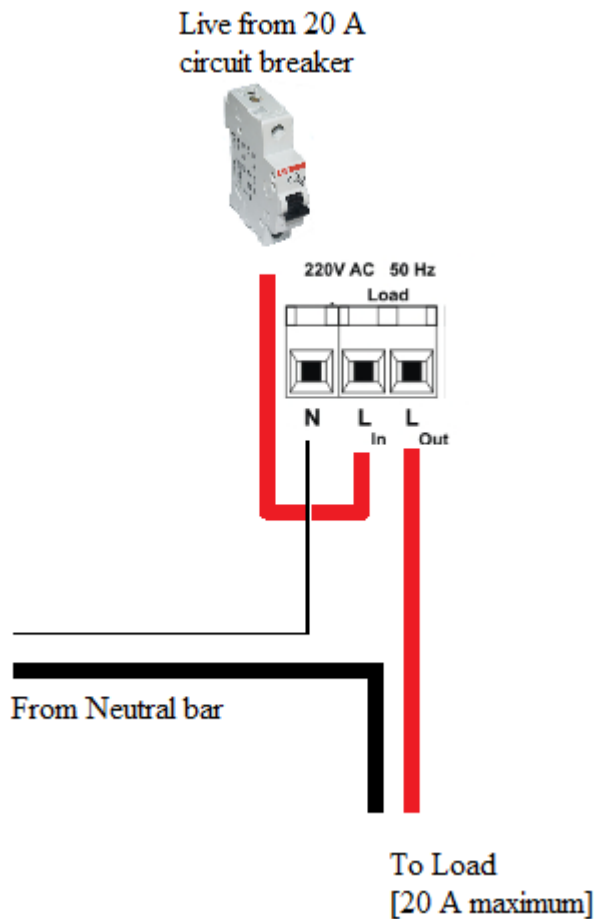

Figure 1
- a. Mains live wire (RED) from Geyser Isolator to screw terminal (Figure 1 - Lin);
- b. Neutral wire (Black) from Geyser Isolator to screw terminal (Figure 1 - N).
- a. Live wire (RED) from geyser to screw terminal (Figure 1 - Lout);
- b. Neutral wire (Black) from geyser to screw terminal (Figure 1- N);
- a. Mains live wire (RED) from geyser breaker to screw terminal Lin (Figure 1 - Lin);
- b. Neutral wire (Black/Blue) from Neutral Bar to screw terminal N (Figure 1 - N).
- a. Live wire (RED) from geyser isolator to screw terminal Lout (Figure 1 - Lout);